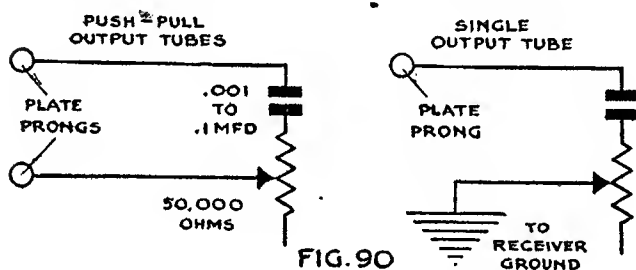

FIG. 90
*Installing a Tone Control:* By following the simple connections shown in Fig. 90, any broadcast receiver can be fitted with an efficient tone control at a cost of less than a dollar. The installation can be made without altering a single connection in the receiver circuit.